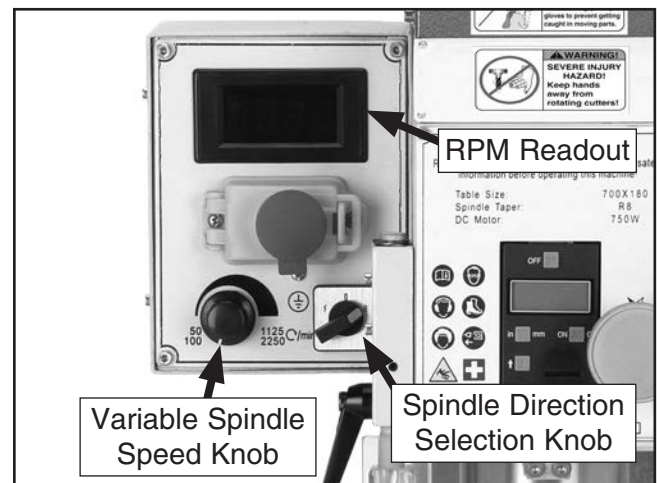

Figure 26. Spindle direction selection knob.
4. Turn the variable spindle speed knob to the far left (slowest) position, then press the green start button and use the spindle direction selection knob to choose the direction of spindle travel and start spindle rotation (**Figure 26**).